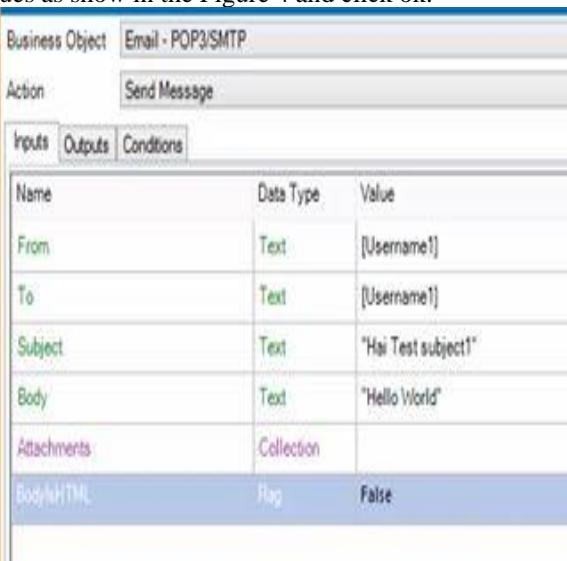

Figure4: Shows Send email Action and its input Properties
Step4: Create other action stage with name Send email and select the Business Object as 'Email POP3/SMTP', Action value as 'Configure' and provide details of all Inputs values as show in the Figure 4 and click ok.